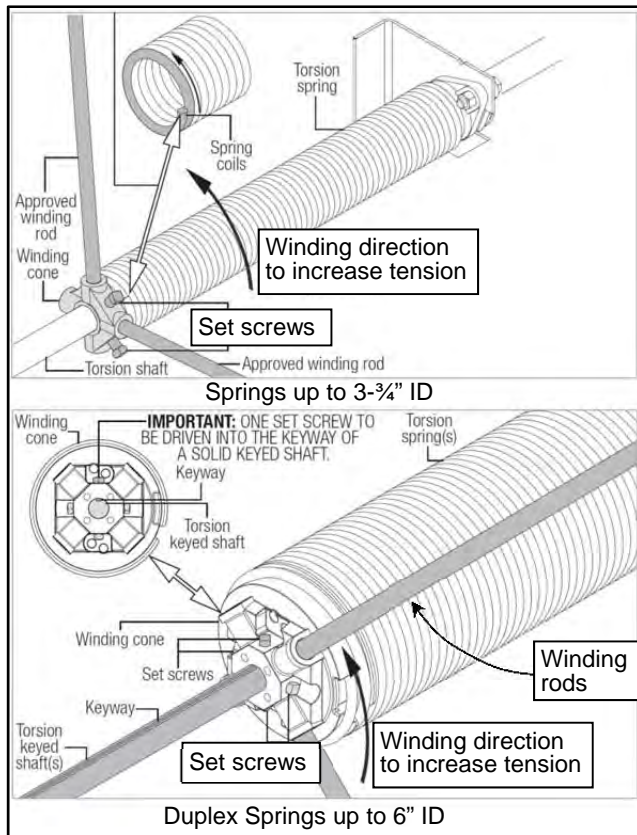

Figure 45
11. Insert winding bar into winding cone and rotate $\frac{1}{4}$ turn upward to increase torque or downward to decrease the springs torque. Insert the second winding bar into the winding cone, take up the torque load, and rotate $\frac{1}{4}$ turn in the same direction as necessary to continue spring adjustment. Remove the first winding bar (See Figure 45)
13. As the last turn is achieved securely hold the winding rod while tightening the set screws in the winding cone. Once the set screws contact the counterbalance-drive shaft tighten the screws an additional $\frac{1}{4}$ to $\frac{1}{2}$ full turn. (See Figure 14 & Figure 45)
IMPORTANT: One set screw must be driven into the keyway of the solid keyed shaft as in Figure 45.
14. After the torsion spring is secure, use the winding bar to apply pressure in the opposite direction to ensure the set screws are securely fixed to the torsion shaft. The winding cone should be tight enough so that when you pull down on the bar, the door should begin to lift. If the bar starts to slip when you pull it down, add $\frac{1}{4}$ turn to each set screw. (See Figure 45)